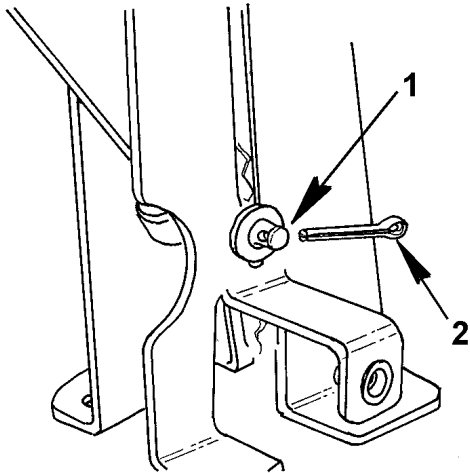
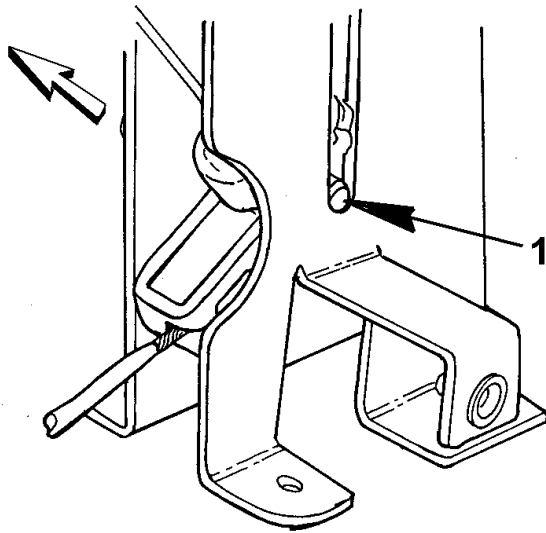

Figure 7 Cotter Pin Removal
Figure 8 Pivot Pin Removal
7. Remove the cotter pin and washer from the pivot pin (Figure 7).
8. Remove the pivot yoke (Figure 8).
11. Connect the parking brake cable to the pivot yoke and assemble to the new lever, by installing the pivot pin, washer and cotter pin (Figure 7 and Figure 8).